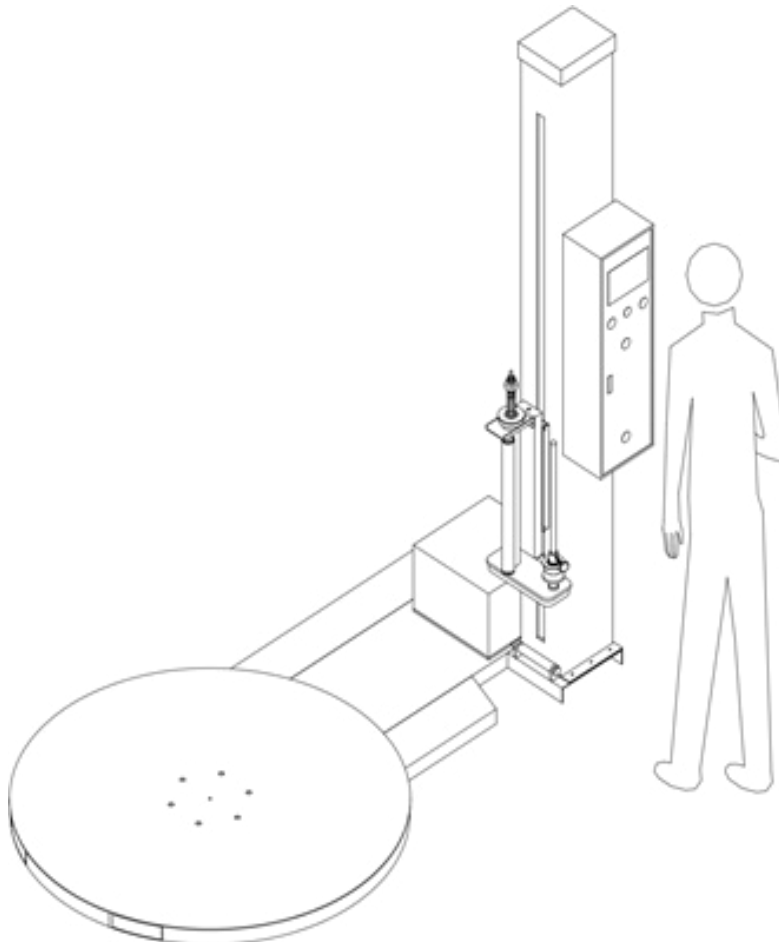

FIG2-14
1. Location of the operator is shown as FIG2-14;